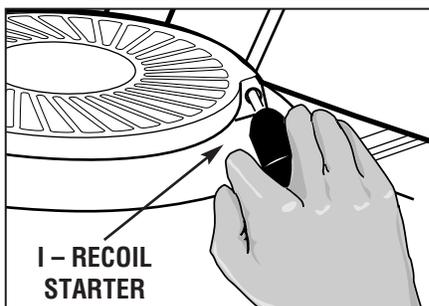

Figure 3-7
The recoil starter (I, Figure 3-7) is used to “pull-start” the engine. Detailed instructions for using the recoil starter are found in the Operation Section of this Manual and in the Engine Owner’s Manual. Do not pull the recoil starter until you have read the Operation Section.
B. Grasp starter rope handle (Figure 3-7) and pull slowly until rope pulls slightly harder. Let rope rewind slowly. Then pull rope with a rapid, full arm stroke. Let rope return slowly. If engine fails to start after three pulls, repeat instructions starting with Step 2 (try setting throttle at fast setting).